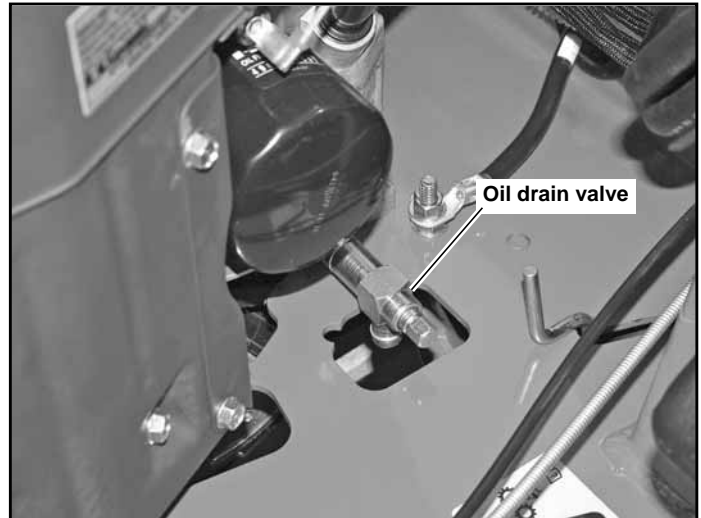

Figure 5-1
1. Locate the oil drain valve on the engine. Figure 5-1